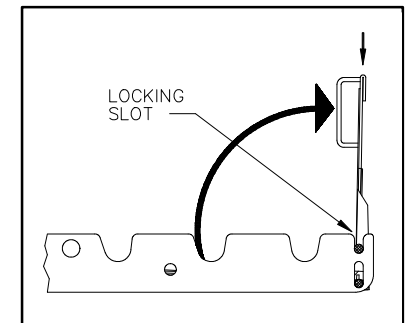

FIGURE 3-24: RAISE OUTER ROLLSTOP
- 5) Refer to **Figure 3-24**. Grasp rollstop handle and raise outer rollstop to vertical position, then drop it into locking slots. Test rollstop to be certain it is locked in place.